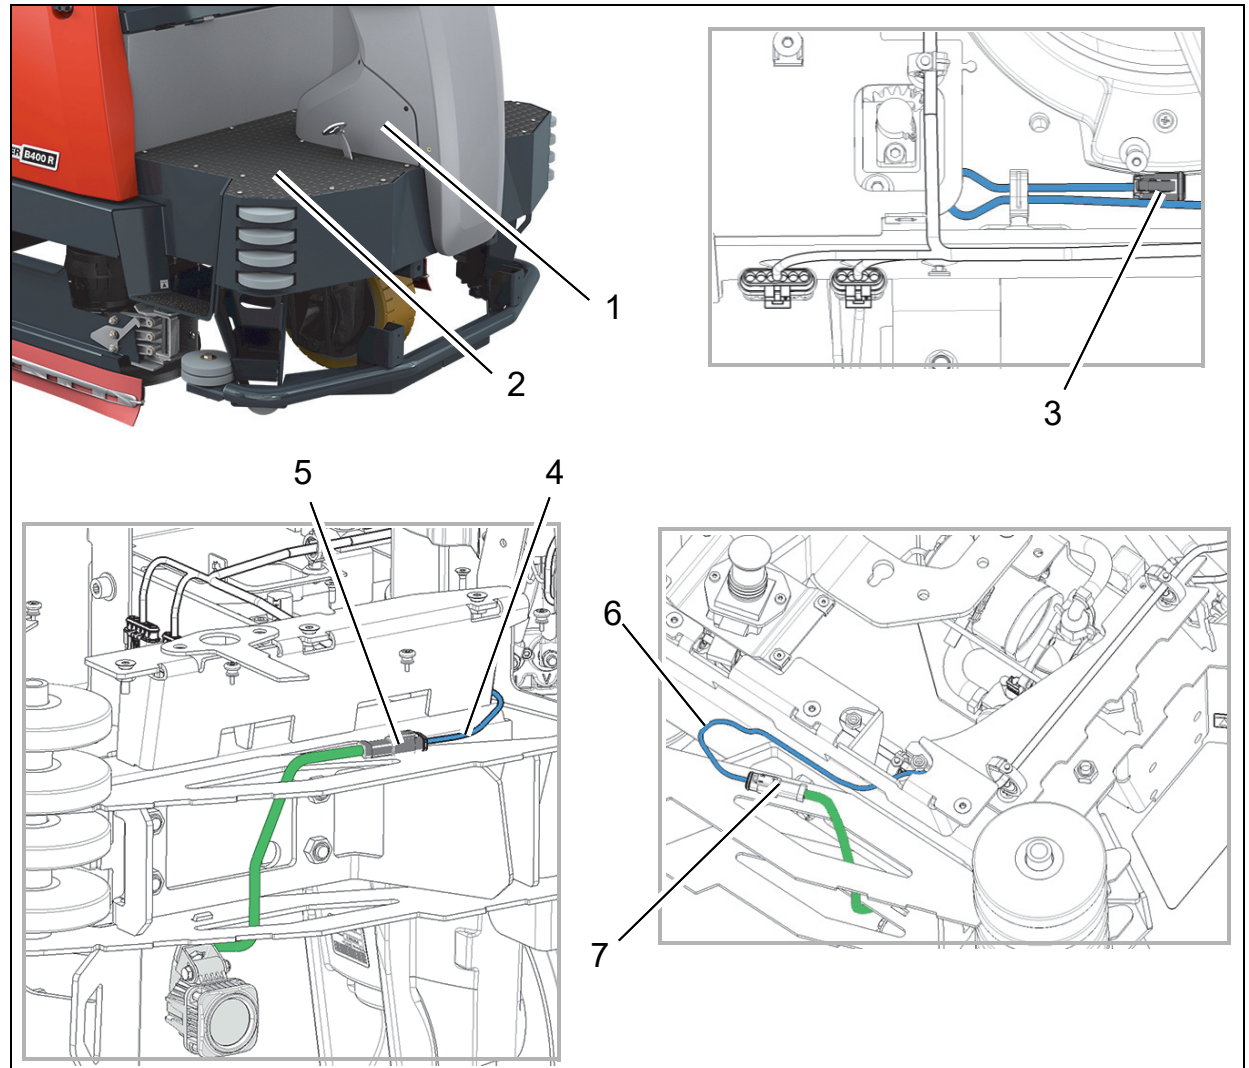

Fig. 2
- Engine cover (Fig. 2/1)
- Floor mat (Fig. 2/2)
1. Disconnect plug E11/cable loom W3 (Fig. 2/3) on the right-hand side of the machine from the cable bundle and feed it through the recess and onto the bumper (Fig. 2/4).
2. Feed the cable of the right-hand LED working light upwards and connect it to plug E11 (Fig. 2/5).
3. On the left-hand side of the machine, feed the plug E1/cable loom W3 from the cable bundle underneath the floor plate to the front and onto the bumper (Fig. 2/6).
4. Feed the cable of the left-hand LED working light upwards and connect it to plug E1 (Fig. 2/7).